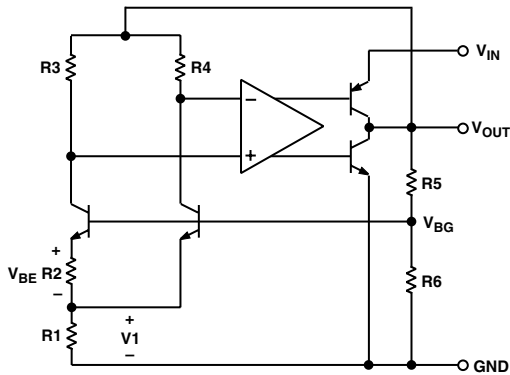

Figure 2. Simplified Schematic
The AD1582/AD1583/AD1584/AD1585 family uses the “bandgap” concept to produce stable, low temperature coefficient voltage references suitable for high accuracy data acquisition components and systems. This family of precision references makes use of the underlying temperature characteristics of a silicon transistor’s base-emitter voltage in the forward biased operating region. Under this condition, all such transistors have a $-2 \text{ mV}/^\circ\text{C}$ temperature coefficient (TC) and a V_{BE} that, when extrapolated to absolute zero, 0°K , (with collector current proportional to absolute temperature) approximates the silicon bandgap voltage. By summing a voltage that has an equal and opposite temperature coefficient of $+2 \text{ mV}/^\circ\text{C}$ with the V_{BE} of a forward-biased transistor, an almost zero TC reference can be developed. In the AD1582/AD1583/AD1584/AD1585 simplified circuit diagram shown in Figure 2, such a compensating voltage, V_1 , is derived by driving two transistors at different current densities and amplifying the resultant V_{BE} difference (ΔV_{BE} —which has a positive TC). The sum (V_{BG}) of V_{BE} and V_1 is then buffered and amplified to produce stable reference voltage outputs of 2.5 V, 3 V, 4.096 V, and 5 V.